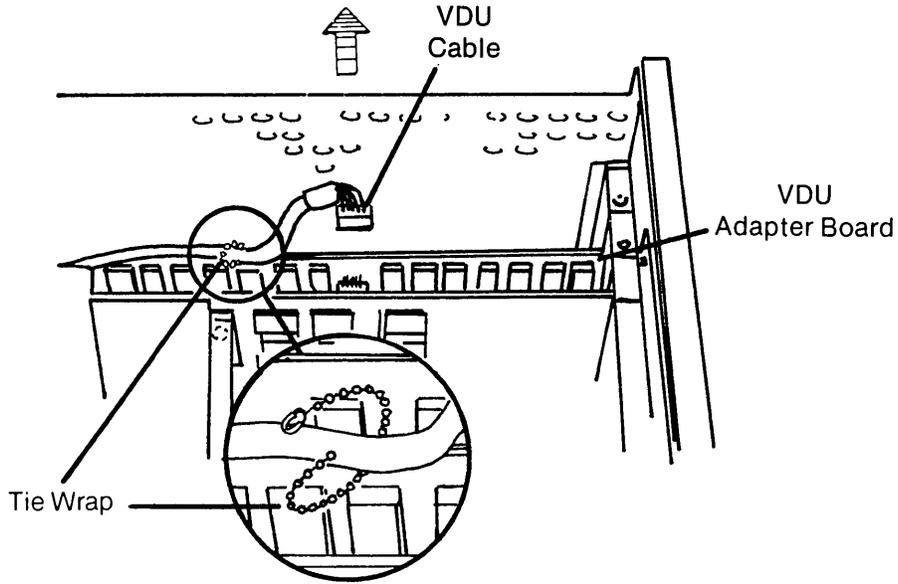

Figure 11-8. Disconnecting the VDU Cable From the VDU Adapter Board.
5. Disconnect the VDU cable from the VDU adapter board (see Figure 11-8). Be careful not to pull the cable.